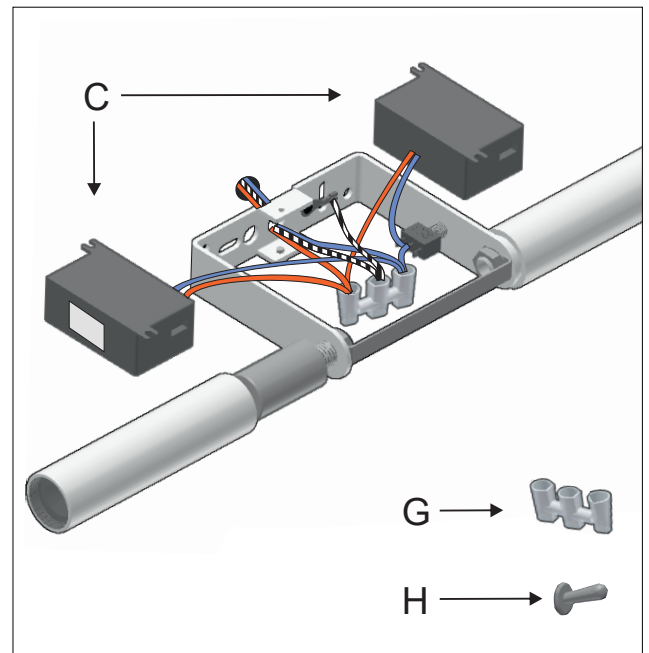

Figure 4B
4 - Connect the network cables to the forbox (G) respecting the connections that join the drivers (C) with the forbox and the push button (H). The ground cable is connected to the input of the forbox that contains the green and yellow cable, while the network cables are connected to the remaining forboxes and then to the drivers and the switch respectively. The inversion of the phase and neutral cables does not imply any change in the operation of the electricity. Figure 4B.